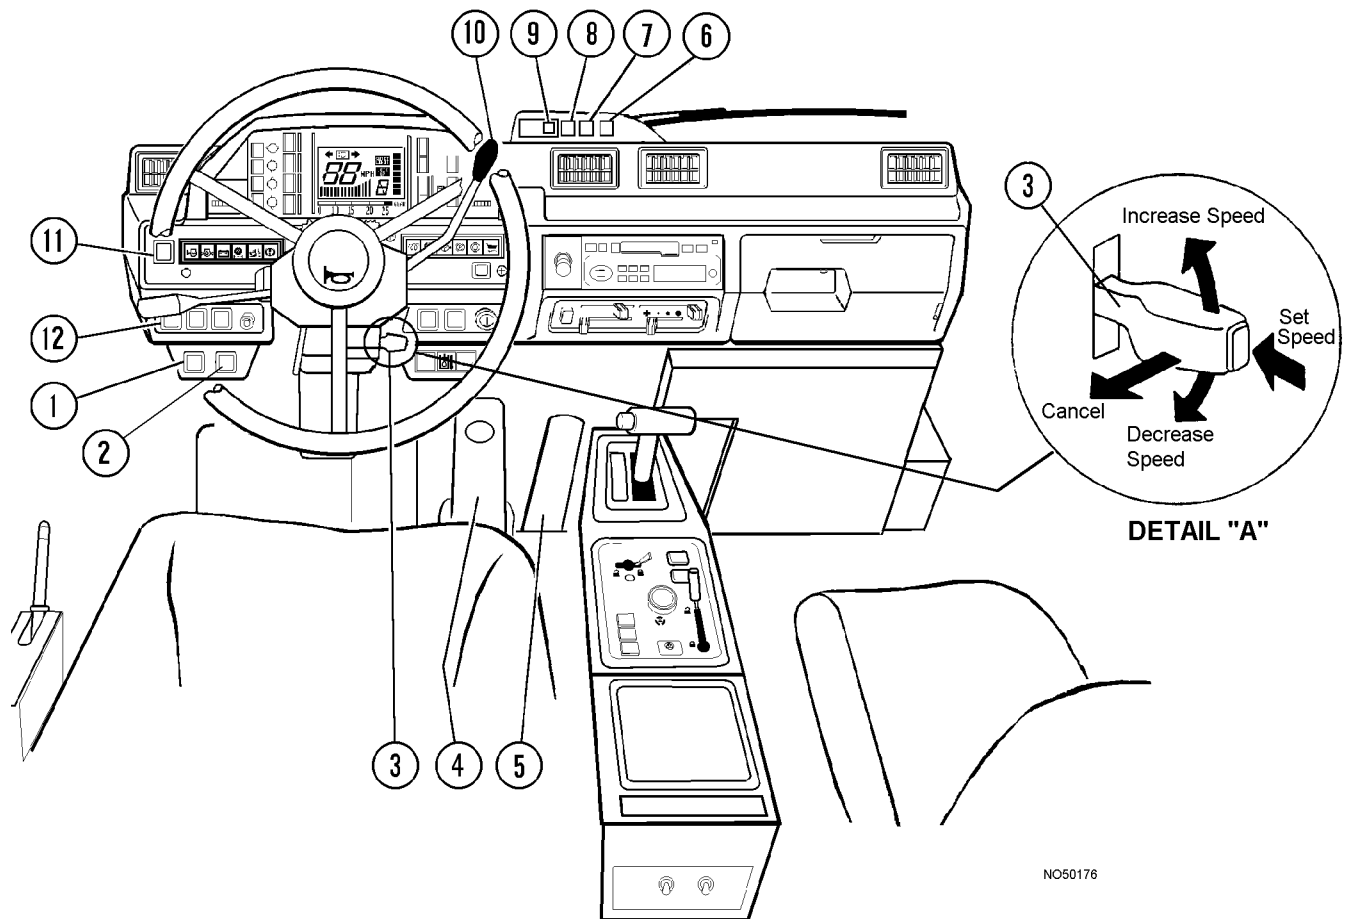

FIGURE 32-3. AUTOMATIC RETARD SPEED CONTROL AND AUTOMATIC SPIN REGULATOR CONTROLS
The Automatic Spin Regulator (ASR) system is activated using the ASR system switch (1, Figure 32-3). During operation, if wheel slippage is detected, the ASR lamp (8) will light and the ASR system will start functioning.
Refer to Figure 32-3 for the location of the ASR/ARSC controls, indicator lights, and speed setting display.
System Switch (1, Figure 32-3)
ASR/ARSC Caution Lamp (6, Figure 32-3)
ASR Operation Lamp (8, Figure 32-3)
Central Warning Lamp (12, Figure 32-3)
Retarder Control Lever (10, Figure 32-3)
Accelerator Pedal (5, Figure 32-3)
Brake Pedal (4, Figure 32-3)
System Switch (2, Figure 32-3)
ARSC Set Lever (3, Figure 32-3)
(Refer to Detail "A", Figure 32-3)
ARSC Standby Lamp (7, Figure 32-3)
Set Speed Display (9, Figure 32-3)
The ARSC system is actuated when the system switch (2, Figure 32-3) is On.
To increase the set speed, depress the accelerator pedal (5, Figure 32-3) to increase speed, and when the desired travel speed is reached, press the set switch on the end of the ARSC set lever (3). The set travel speed will be changed to the new speed.
To decrease the set speed, operate the retarder control lever (10, Figure 32-3) to reduce speed, and when the desired travel speed is reached, press the set switch on the ARSC set lever (3). The set travel speed will be changed to the new speed.
- To raise the set travel speed 1 km/h (0.6 MPH), push the ARSC set lever (3, Figure 32-3) forward once.
If the exhaust brake switch (12, Figure 32-3) is in the ON position, the exhaust brake is actuated normally when the accelerator pedal is released if the torque converter lock-up is On. If the truck attempts to exceed the set speed, the ARSC is actuated.
If there is danger that the retarder oil may overheat, the ASR/ARSC caution lamp (6, Figure 32-3) will illuminate and the set travel speed is automatically reduced.